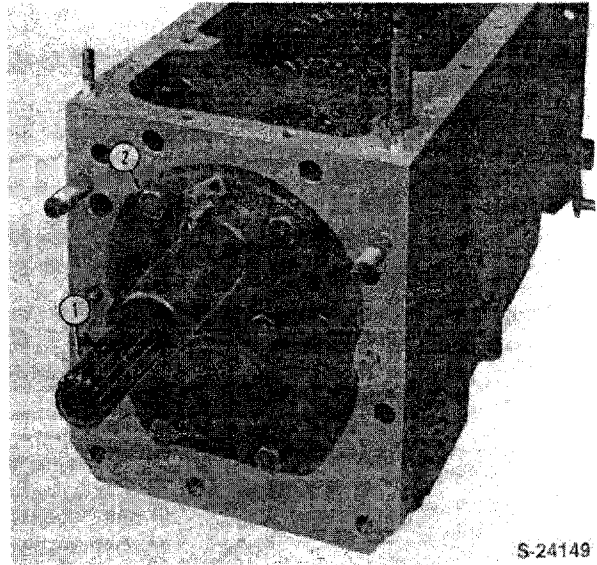

Figure 142
1. Remove the input shaft retainer (1), Figure 142.